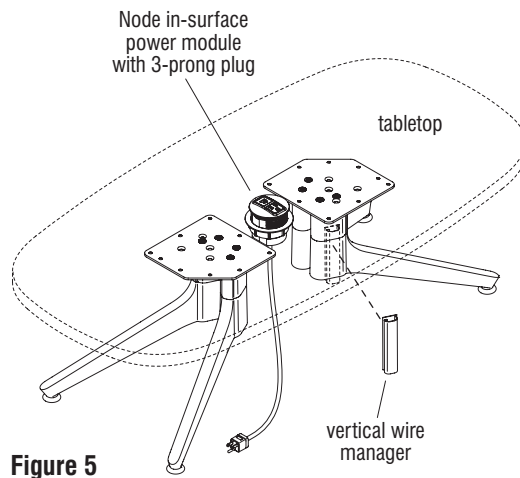

Figure 5
17. Position the vertical wire manager in the desired location against the leg which is closest to a power source. Align the vertical wire manager centered, straight along the leg, and bottom of the wire manager to be flush with the bottom of the post of the C-leg. Then mark the location of the wire manager and move the unit away (Figure 5).
18. Remove the adhesive backing from the vertical wire manager to expose the adhesive surface. Position the wire manager back to the marked location, centered on the leg, and press firmly along the adhesive area (Figure 5).